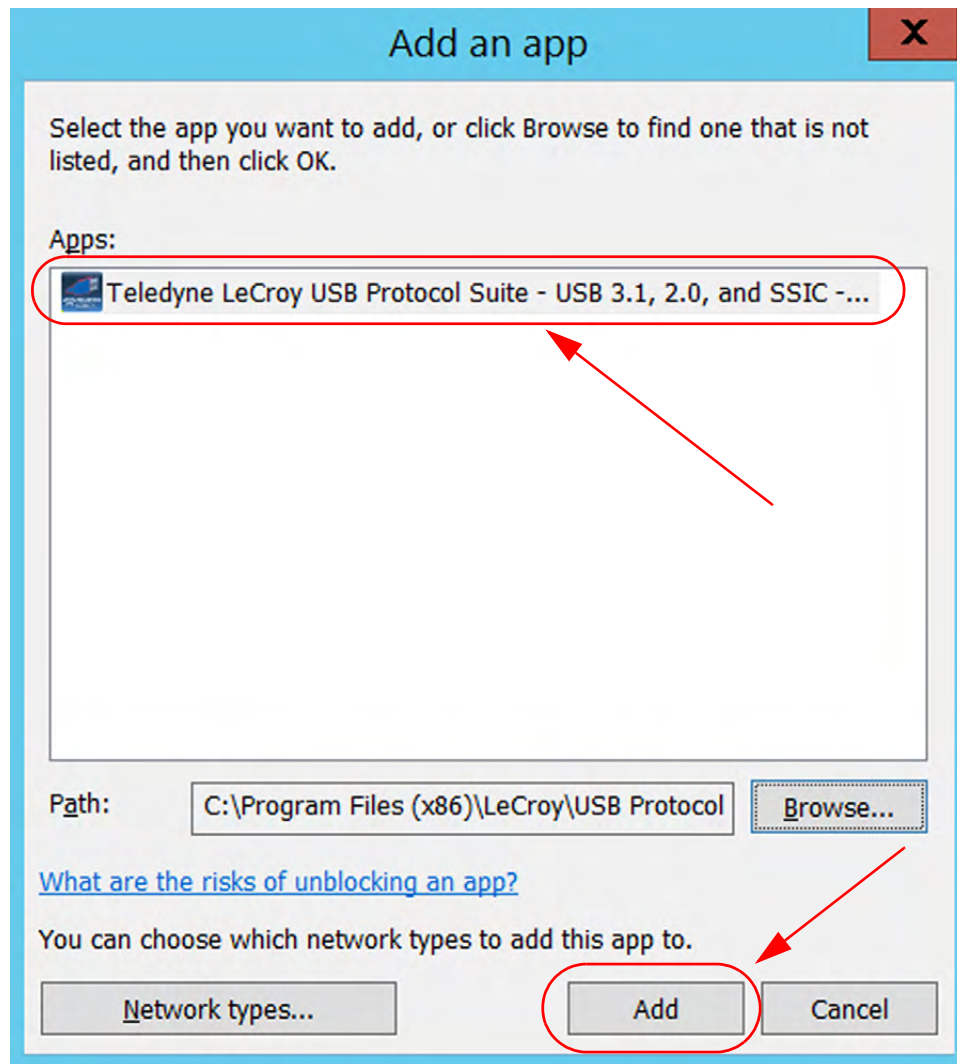

Figure 3.8: Windows Server 2012: Add an Application to the Firewall Exceptions
9. If necessary, select the Teledyne LeCroy USB Protocol Suite you want to add. Then click on “ADD”, this will add the Teledyne LeCroy USB Protocol Suite software to the Apps allowed through the Firewall. See Figure 3.8.